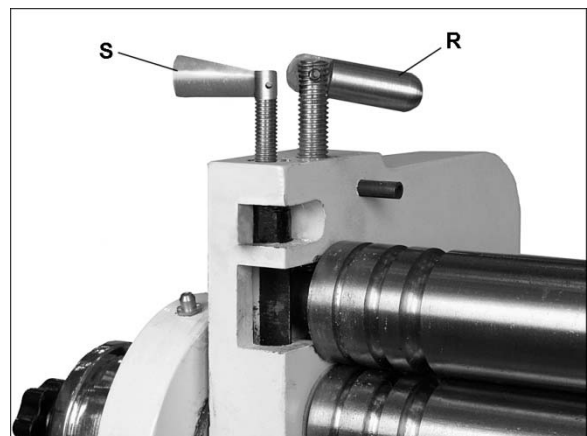

Figure 13
1. Loosen *bolt* (R, Figure 13)
2. Loosen thumb screw (S) to release the roll catch.
- Reinstall upper roll, and tighten screw and bolt (S, Figure 13).